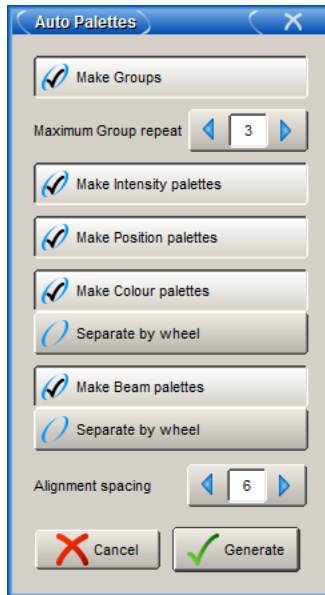

Figure 14.6. The Auto Palettes window
2. Click on the Auto Palettes button (located in the toolbar at the top of the Fixture window) and select from the options in the Auto Palettes window; see *Figure 14.6, “The Auto Palettes window”*.